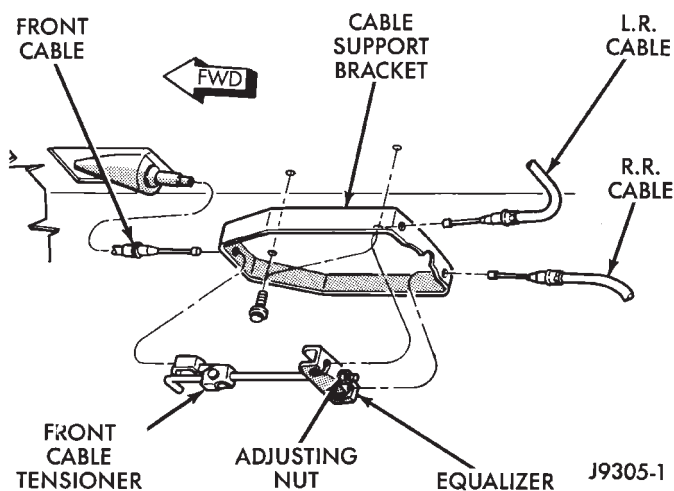
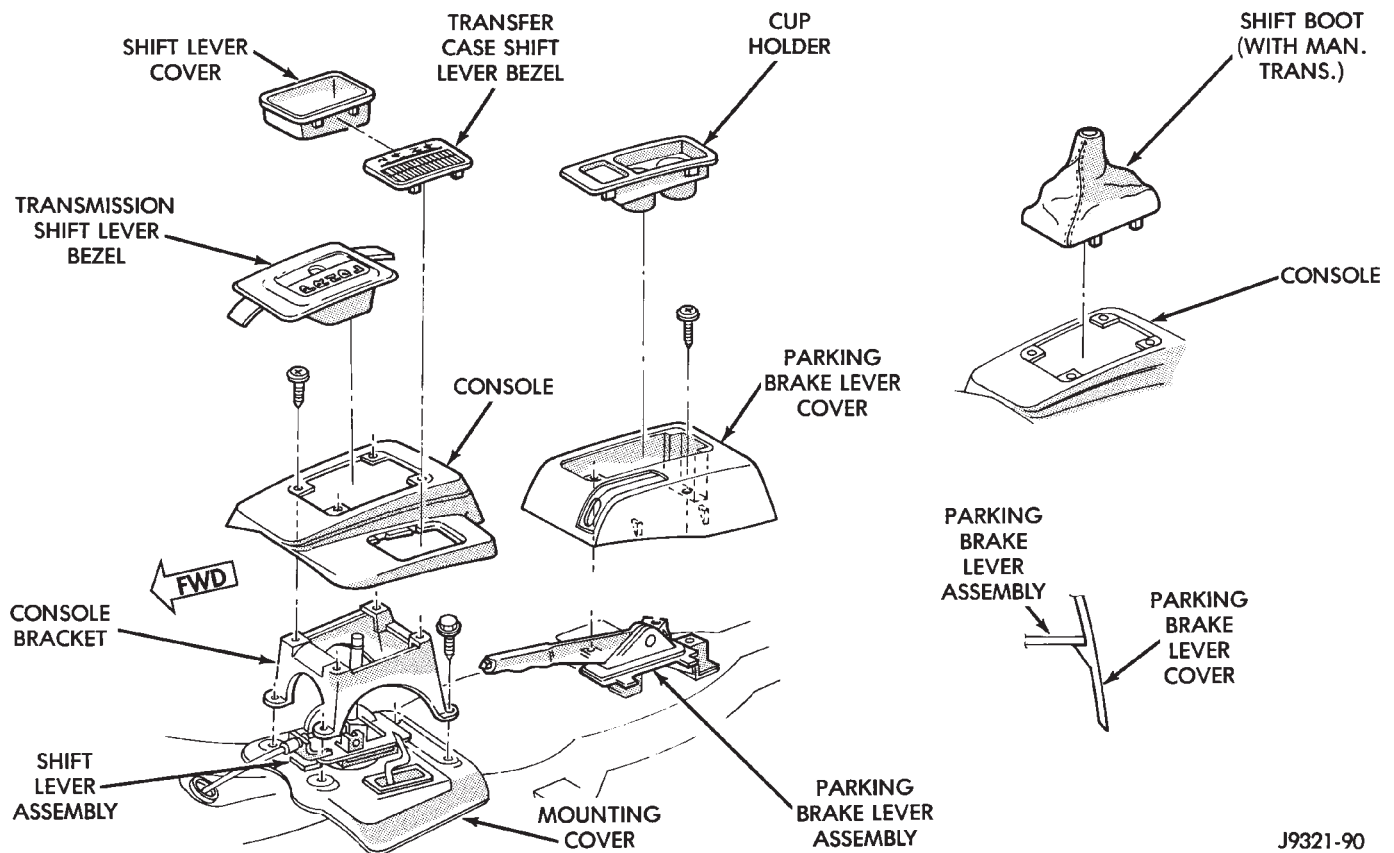

Fig. 4 Parking Brake Front Cable Attachment
Fig. 5 Mini Console Components
- (3) Raise vehicle on hoist.
- (4) Remove front cable adjusting nut and disengage cable tensioner from equalizer. Then remove front cable from tensioner (Fig. 4).
- (5) disengage front cable from insert and insert from floorpan (Fig. 4).
- (1) Release parking brakes, if applied.
- (2) Disconnect battery negative cable and raise vehicle on hoist.
- (3) Remove front cable adjusting nut and disengage cable tensioner from equalizer. Then remove front cable from tensioner (Fig. 4).
- (4) disengage front cable from insert and insert from floorpan (Fig. 4).
- (5) Lower vehicle.
- (6) On models with full console, remove console. Refer to parking brake lever removal procedure for full console.
- (7) On models with mini console, unsnap and remove cup holder from parking brake lever cover (Fig. 5). Then remove screws attaching lever cover to floor pan and remove cover (Fig. 5).